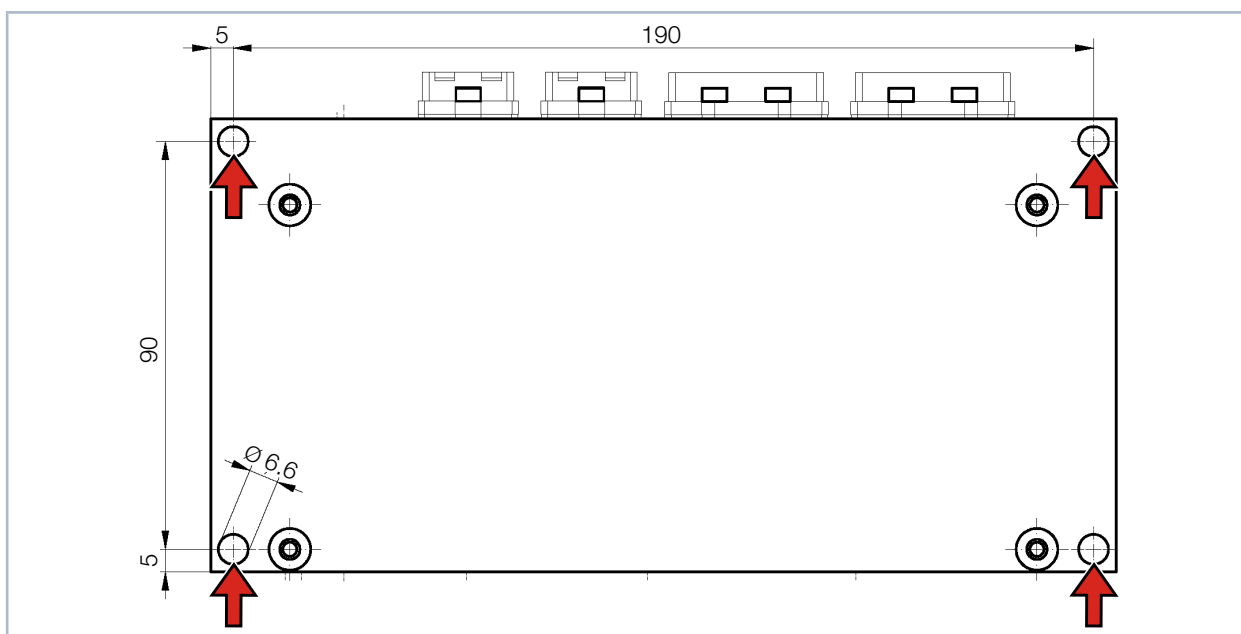

Fig. 6.3: Mounting holes, view underside (Dimensions in mm)
1. Mount the PMM according to Fig. 6.3 on page 19 with 4 screws M6. The total length of the screws depends on the dimensions of the customer's bracket. Screws of strength class 8.8 and a tightening torque of 35 N·m are recommended.